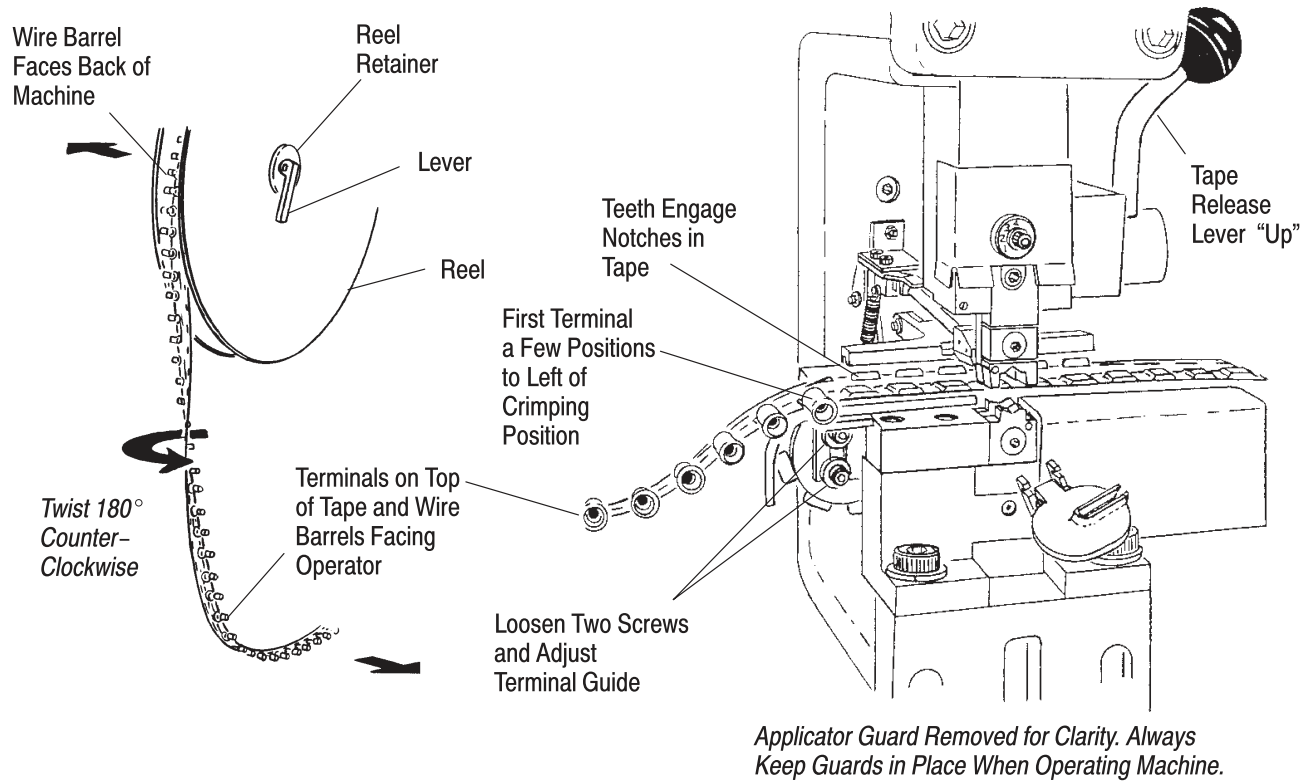

Figure 11
- Raise reel retainer lever and remove retainer. See Figure 11.
- Adjust terminal guide to feed product straight into the crimping dies as shown in Figure 11.